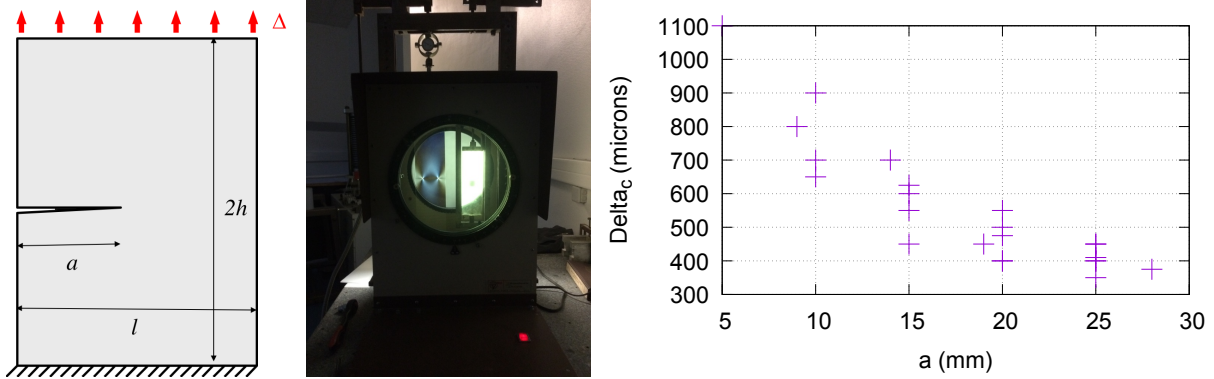

Figure 1: Cracked plate under tension (left). Loading device (center) used to measure the critical displacement Δ_c as a function of a (right).
The experimental setup is as follows. The lower part of the plate is clamped and the top surface is submitted to a displacement Δ_{ey} . The displacement is increased until the crack propagates. It occurs abruptly for a critical displacement Δ_c depending on a . In Fig. 1, each point corresponds to one test. A movie of a similar experiment (but with two initial cracks) can be found using the link <https://mycore.core-cloud.net/index.php/s/GRu0AZZ0zweLjI1>.
5. Get the numerical values of all the points of Figure 1 using Webplotdigitizer (<https://automeris.io/WebPlotDigitizer/>)